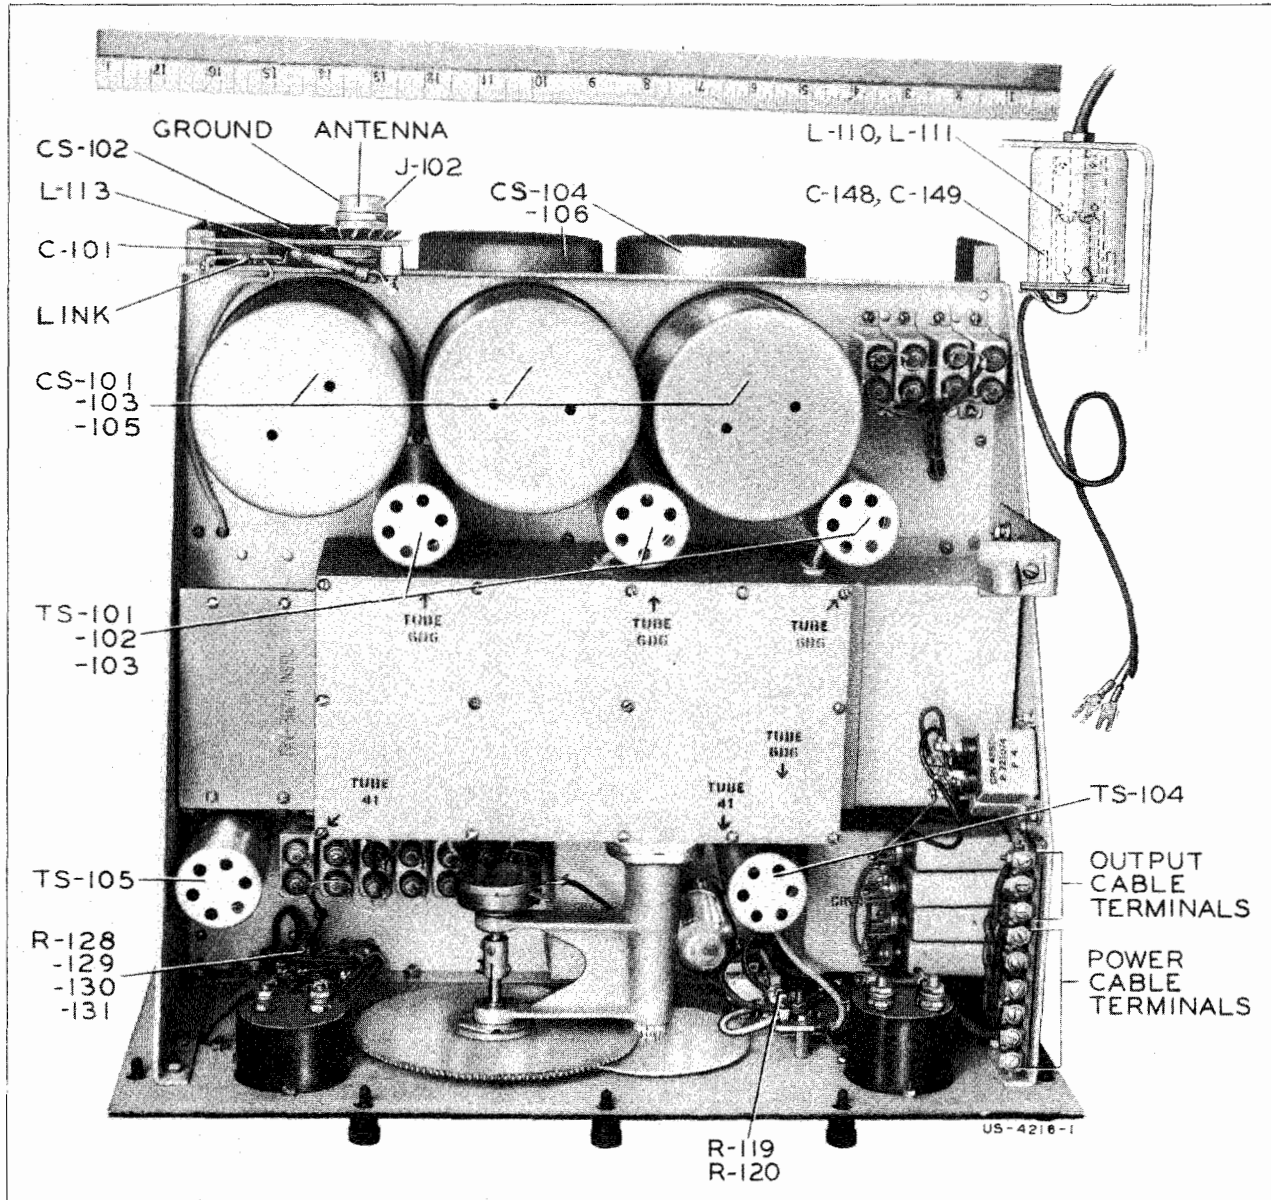

Figure 2—Receiver Unit CRV-46155 (Top View of Chassis)
7.2-1 The tube locations are shown in Figures 2 and 15.
to tubes, for servicing and for cable connections. All components are mounted on the chassis or panel forming a single assembly (see Figures 2, 3, and 6). Audio and AVC components are mounted directly behind the panel with filter and audio tuning units at the right, the first audio and output tubes in the center, and the AVC circuit at the left. Audio wiring, resistors, etc. are located beneath the chassis. The tuning capacitor assembly is located just back of the audio components. The top plate on the capacitor assembly is removable for inspection. At the rear of the chassis are located the r-f and detector tubes and the r-f coils, which are protected and shielded by screw cans. The power terminals are located at the right of the chassis and the antenna and ground terminals at the left. The band switch, r-f components and wiring are located beneath the chassis in a fabricated shield box. The large cover plate on the bottom of the receiver is removable for inspection and access to these parts.
- 9.7-3 An output cable filter assembly consisting of series coils L110 and L111 and by-pass capacitors C148 and C149 prevents signal pick-up on the phone leads and output cable connecting the control box to the receiver. It is mounted in a shielded can which prevents any direct radiation when assembled inside the receiver cabinet. This filter unit is mounted in the cabinet and is illustrated in Figure 2.